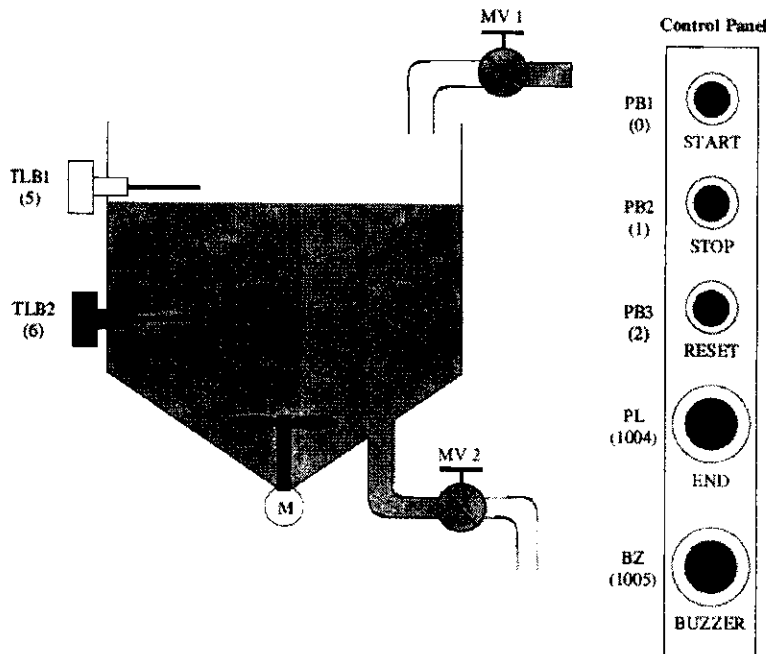

Fig.5(b)
5. a) Explain in detail : (06)
- b) Develop the ladder logic diagram for the system shown in Fig.5(b) to satisfy the following requirements (09)